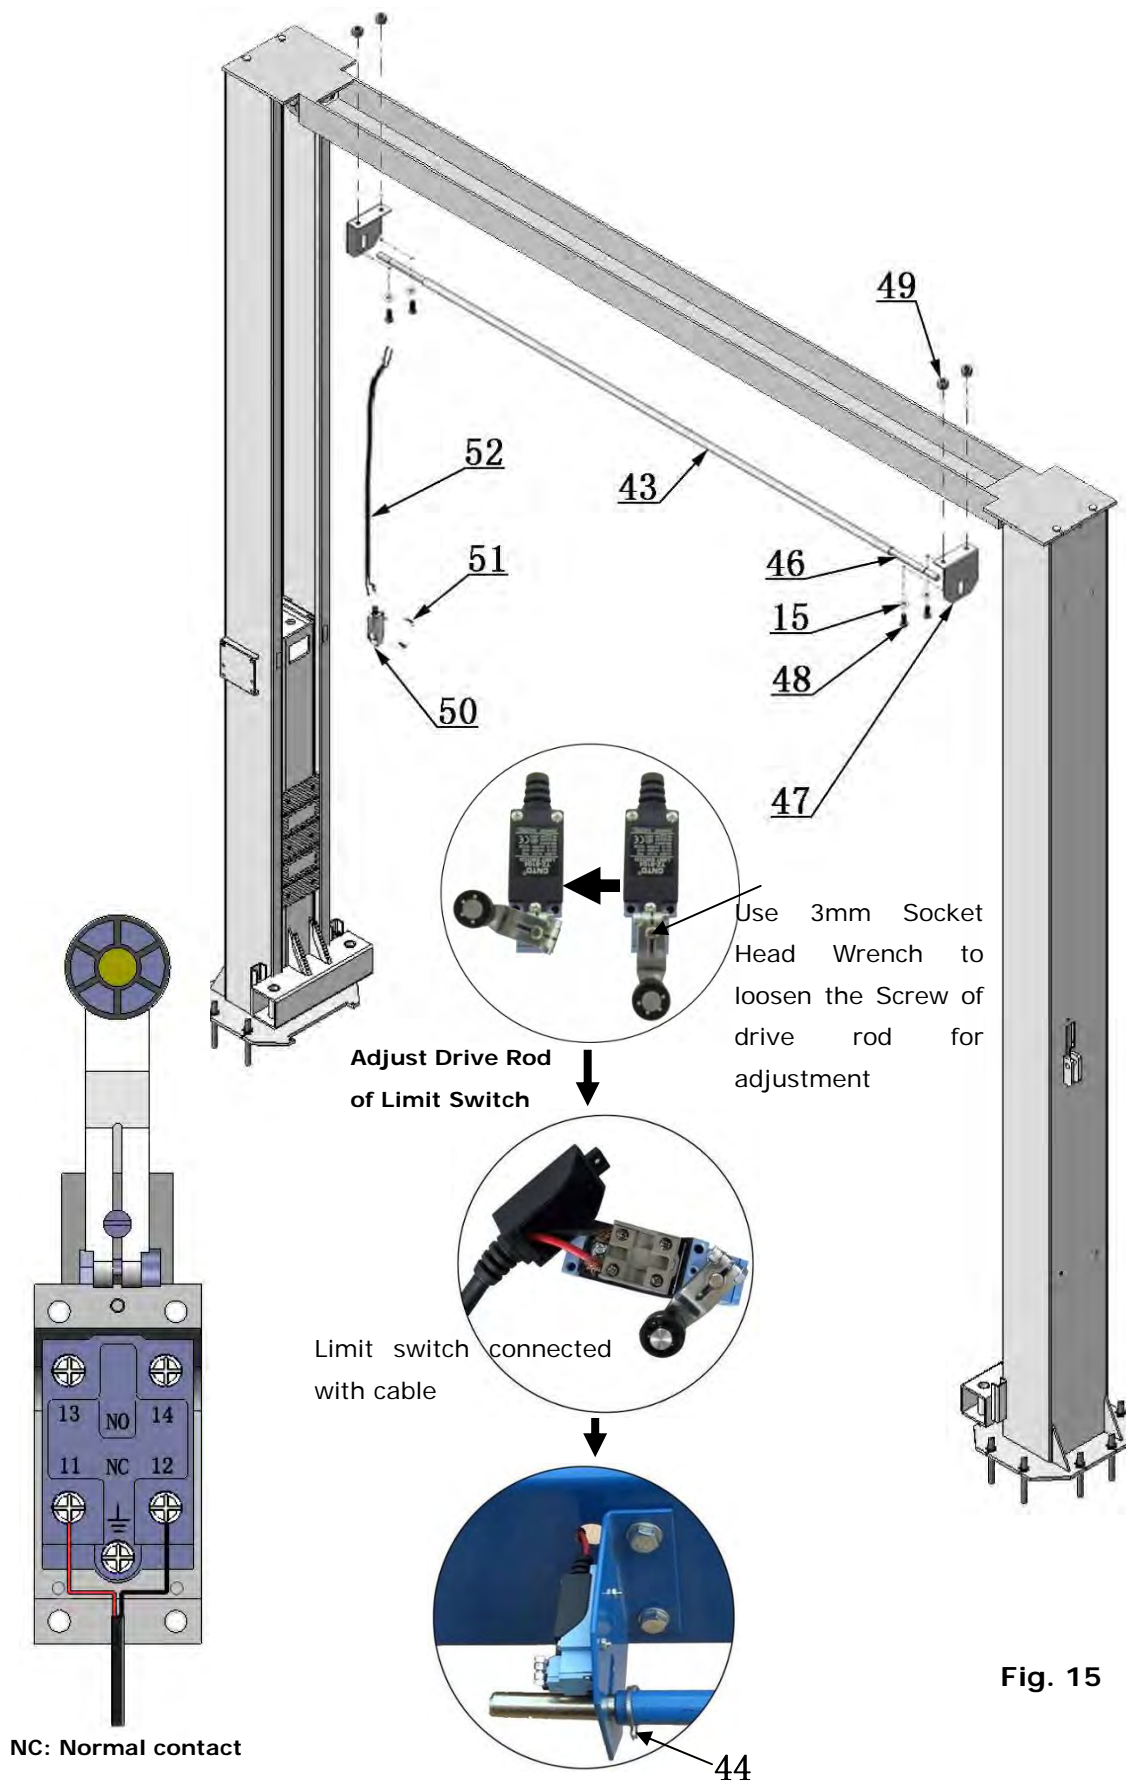

Fig. 15
6. Open the carton of parts and check the parts according to parts box list (See Fig. 15).
K. Install the limit switch control bar and limit switch (See Fig. 15).